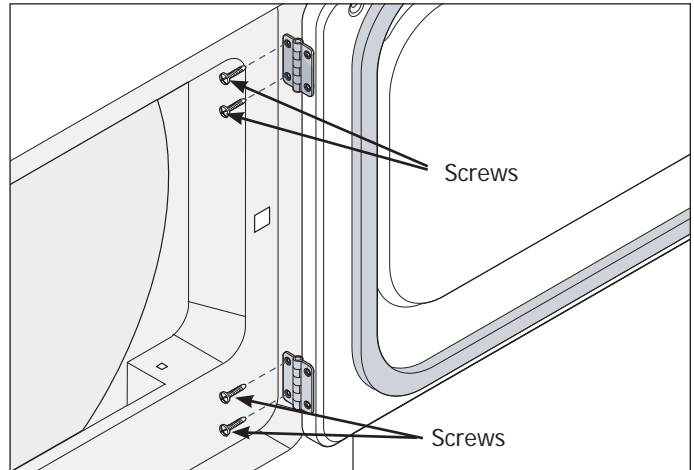

Figure 2-38.
2. Remove the four screws that secure the door hinges to the dryer front panel (see below). Hold the door firmly before removing the last two screws. (See Figure 2-38)